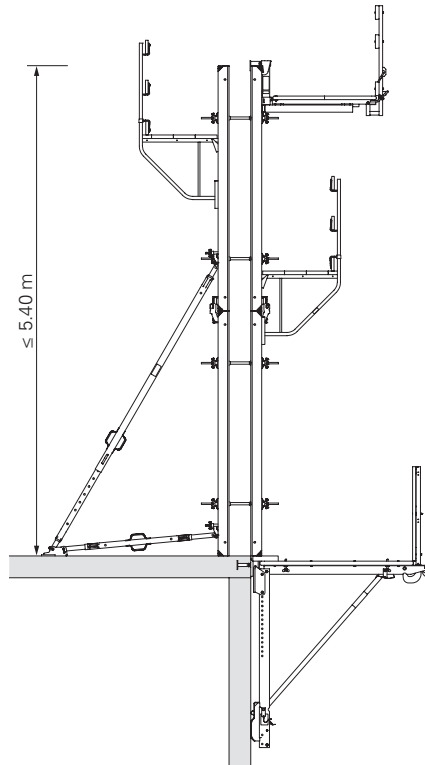

Fig. B2.01
- 2.70 m to 5.40 m: No height adjustment permitted. (Fig. B2.01)